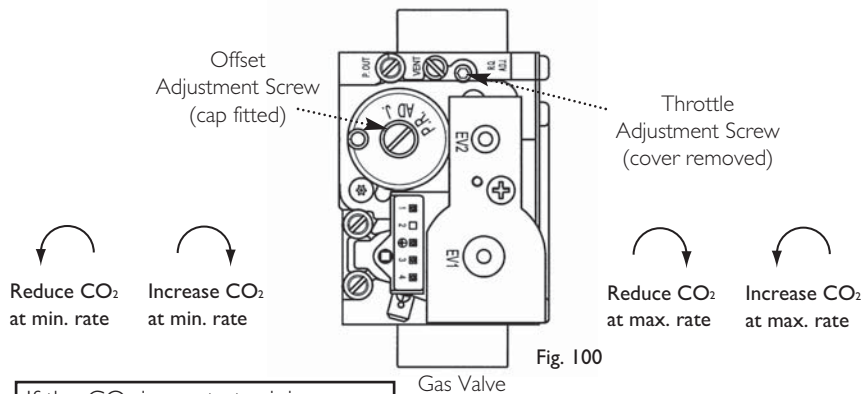

Fig. 100
8. It is possible to alter the CO₂ by adjustment of the gas valve. Remove the plastic cover from the Throttle Adjustment Screw. At maximum rate the Throttle Adjustment Screw should be turned, using a suitable hexagon key, until the correct reading is obtained (Fig. 100). Turning clockwise will reduce the CO₂. Anticlockwise will increase the CO₂.
10. With the boiler on minimum, the Offset Adjustment Screw must be altered, using a suitable hexagon key, after removing the cap (Fig. 100). Turning anti-clockwise will reduce the CO₂. Clockwise will increase the CO₂.